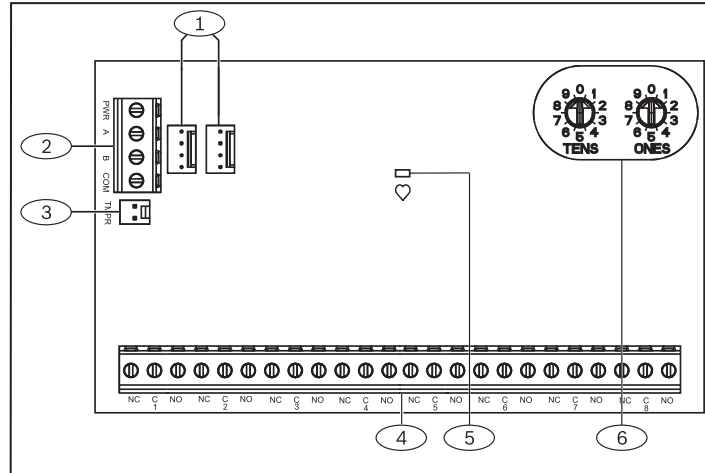
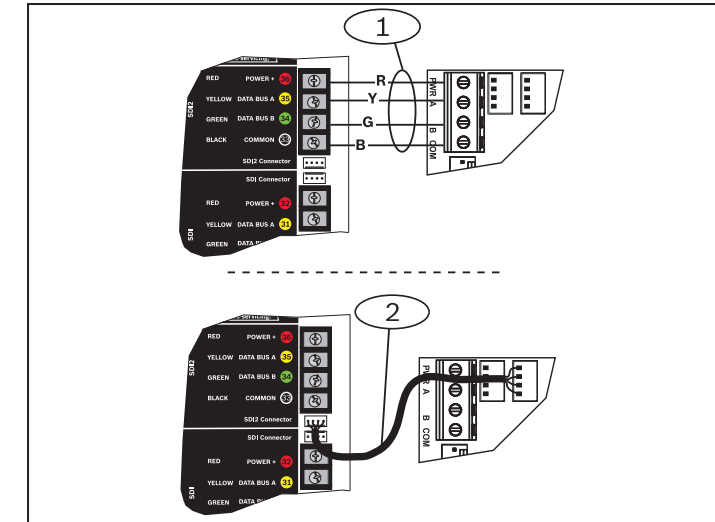

Figure 1.1: Board overview
Figure 3.2: Using terminal strip or interconnect cable wiring (D9412GV4 shown)
2. Plug the tamper switch wire onto the module's tamper switch connector. Refer to *Figure 1.1*.
When you wire the module to a control panel, you can use either the module's terminal strip labeled with PWR, A, B, and COM, or the module's interconnect wiring connectors (wire included). Interconnect wiring parallels the PWR, A, B, and COM terminals on the terminal strip. *Figure 1.1* indicates the location of both the terminal strip and the interconnect connectors on the module. Refer to *Figures 3.2, 3.3, and 3.4*.